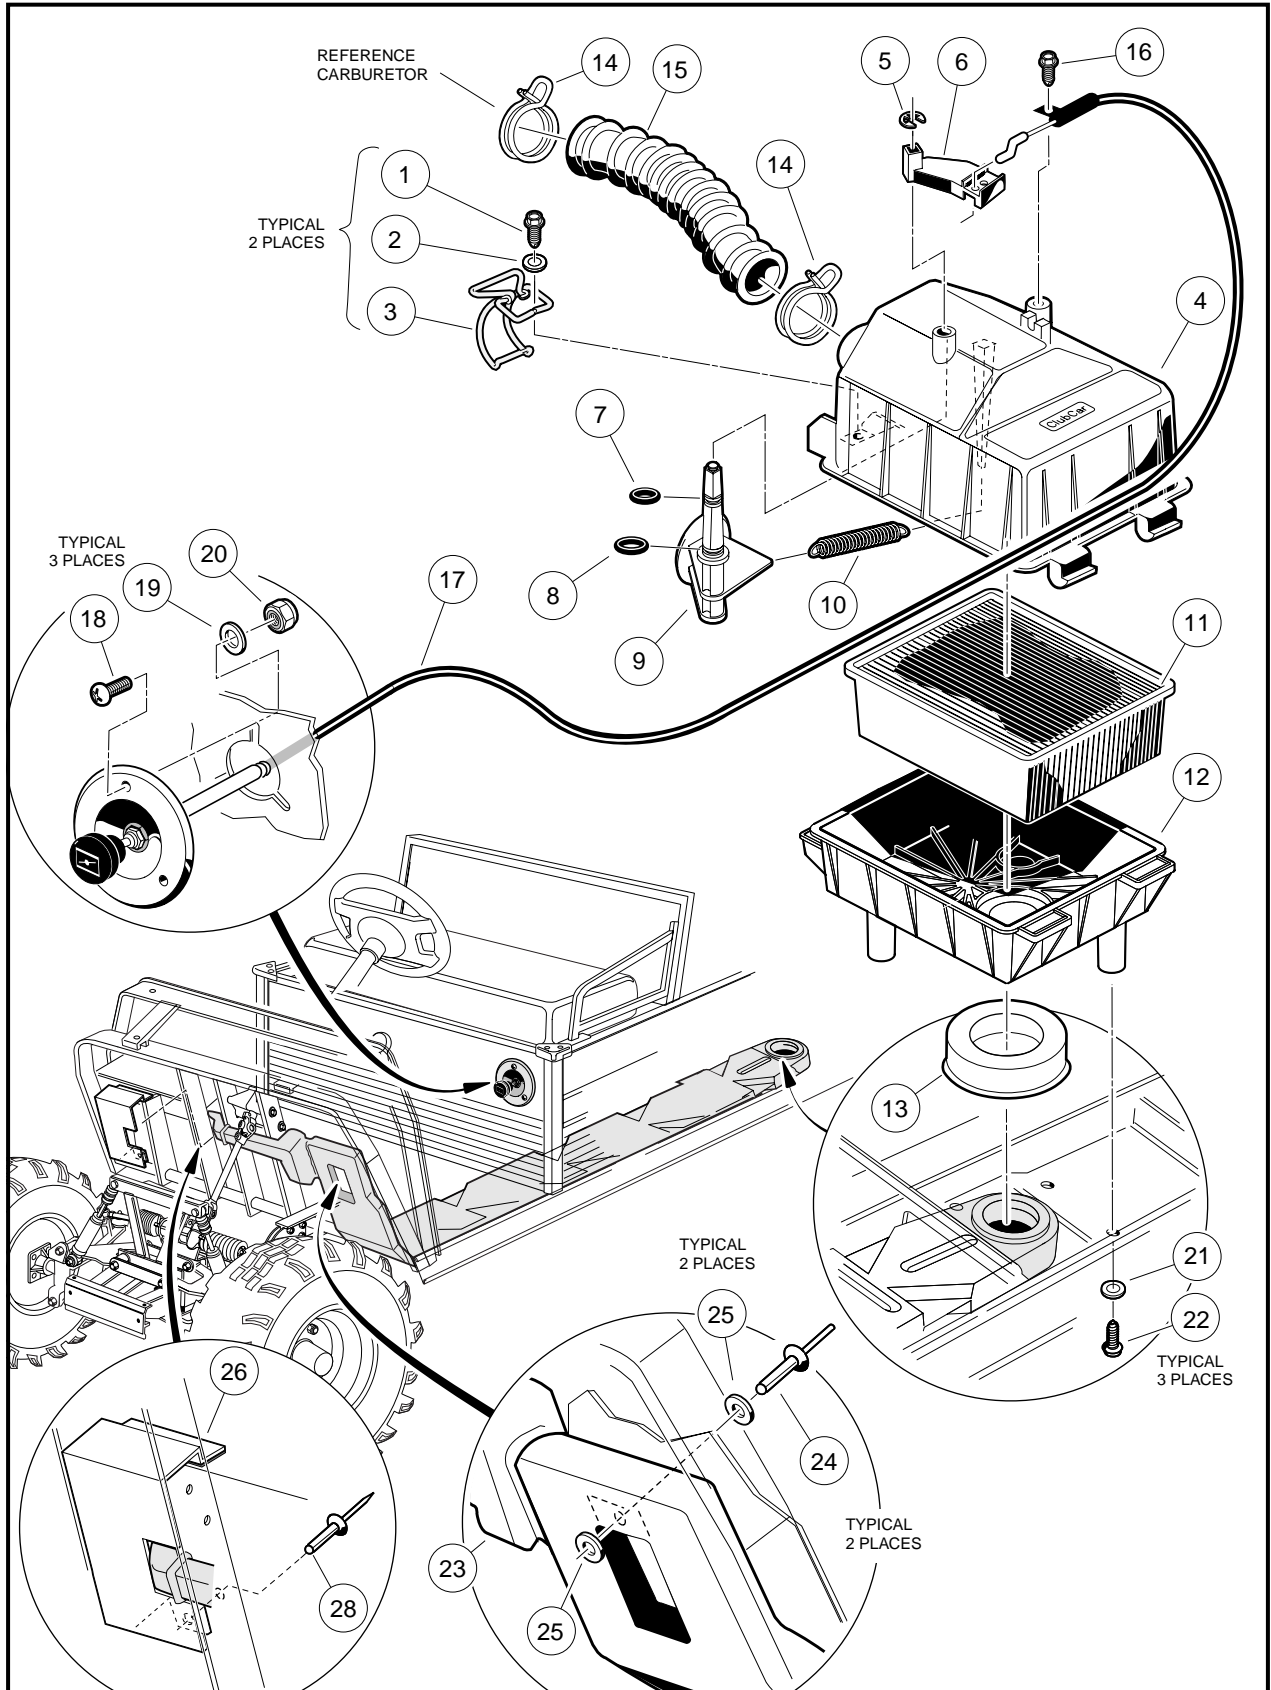

Figure 14-14 Air Intake and Choke Assemblies
1. Remove the screw (16) securing cable to air box and detach cable end from choke lever (6) (**Figure 14-14, Page 14-17**).
2. Remove three screws (18), nuts (20) and washers (19) from body and remove choke cable assembly from body (**Figure 14-14, Page 14-17**).
2. Install three screws (18), washers (19), and locknuts (20) as shown and tighten to 18 in-lb (2.0 N·m) (**Figure 14-14, Page 14-17**).
4. Attach choke cable to choke lever (6) on air box. Install screw (16) to secure cable to air box and tighten to 18 in-lb (2.0 N·m) (**Figure 14-14, Page 14-17**).
2. Remove the air intake box from the vehicle by removing intake hose (15) and three screws (22) and washers (21) that mount the intake box to the vehicle (**Figure 14-14, Page 14-17**).
1. Check to be sure the intake seal (13) is seated correctly (**Figure 14-14, Page 14-17**). The seal fits tightly onto the bottom side of the air box. If seal is not in place, moisture will enter the air intake system.
2. Place the air box assembly into vehicle and install three flat washers (21) and screws (22) from underside of air box mounting plate into air box (**Figure 14-14, Page 14-17**). Tighten to 33 in-lb (3.7 N·m).
4. Roll the floor mat from underneath the dashboard and drill out the pop rivet (28) that secures the air intake shield (26) to the floorboard (**Figure 14-14, Page 14-17**).
6. Drill out the two pop rivets (24) securing the intake duct to the floorboard (**Figure 14-14, Page 14-17**).
7. Remove three screws (22) and flat washers (21) from the bottom of the air box assembly (**Figure 14-14, Page 14-17**).
2. Secure the front of the duct to the underside of the floorboard with two pop rivets (24) and flat washers (25) (**Figure 14-14, Page 14-17**).
4. Install the shield to the frame with the adhesive strip and a pop rivet (28).
2. Lift two latches (3) on the side of the air box (**Figure 14-14, Page 14-17**).
3. Remove the hose clamp (14) from the air hose and remove hose from the air box assembly.
4. Standing on driver side of vehicle, grasp air hose mounting inlet and open box fully. Remove filter element (11).
7. Fasten wire latches (3). Make sure latches securely engage the bottom half of the box. **See following CAUTION.**
8. Reinstall hose (15) and hose clamp (14) (**Figure 14-14, Page 14-17**). Make sure clamp ends are located in the 12:00 o'clock position.